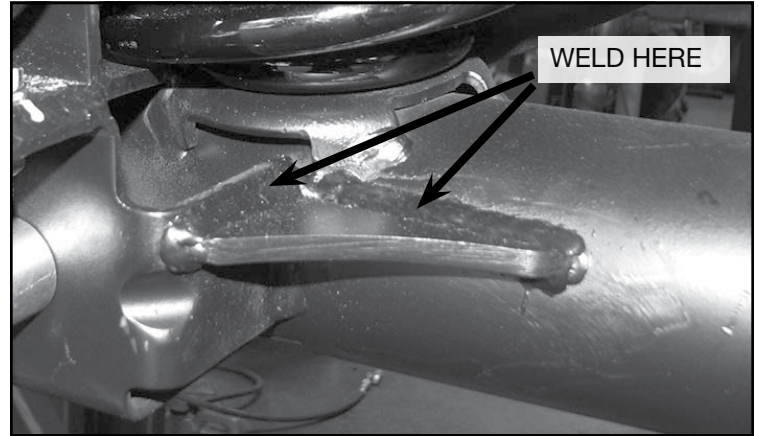

FIGURE 24 - STEP 21
18. Jack up the rear end of the vehicle and support the frame rails just in front of the rear bumper with jack stands. **NEVER WORK UNDER AN UNSUPPORTED VEHICLE!** Remove the rear tires. Support the rear axle. Do not allow to hang freely. Remove the factory shocks and rear sway bar end links and discard. Disconnect the brake lines from the frame and save hardware. Remove the plastic clips that hold the ABS lines to the frame and at the rear upper link arm pockets. Do not damage the clips, they will be reused. Remove the (2) nuts attaching the factory E-brake cable from the body and save.
21. Locate FT50362 Gusset, position it onto the axle and the factory track bar mount as shown in photo. Weld the gusset on the two sides. **SEE FIGURE 24**